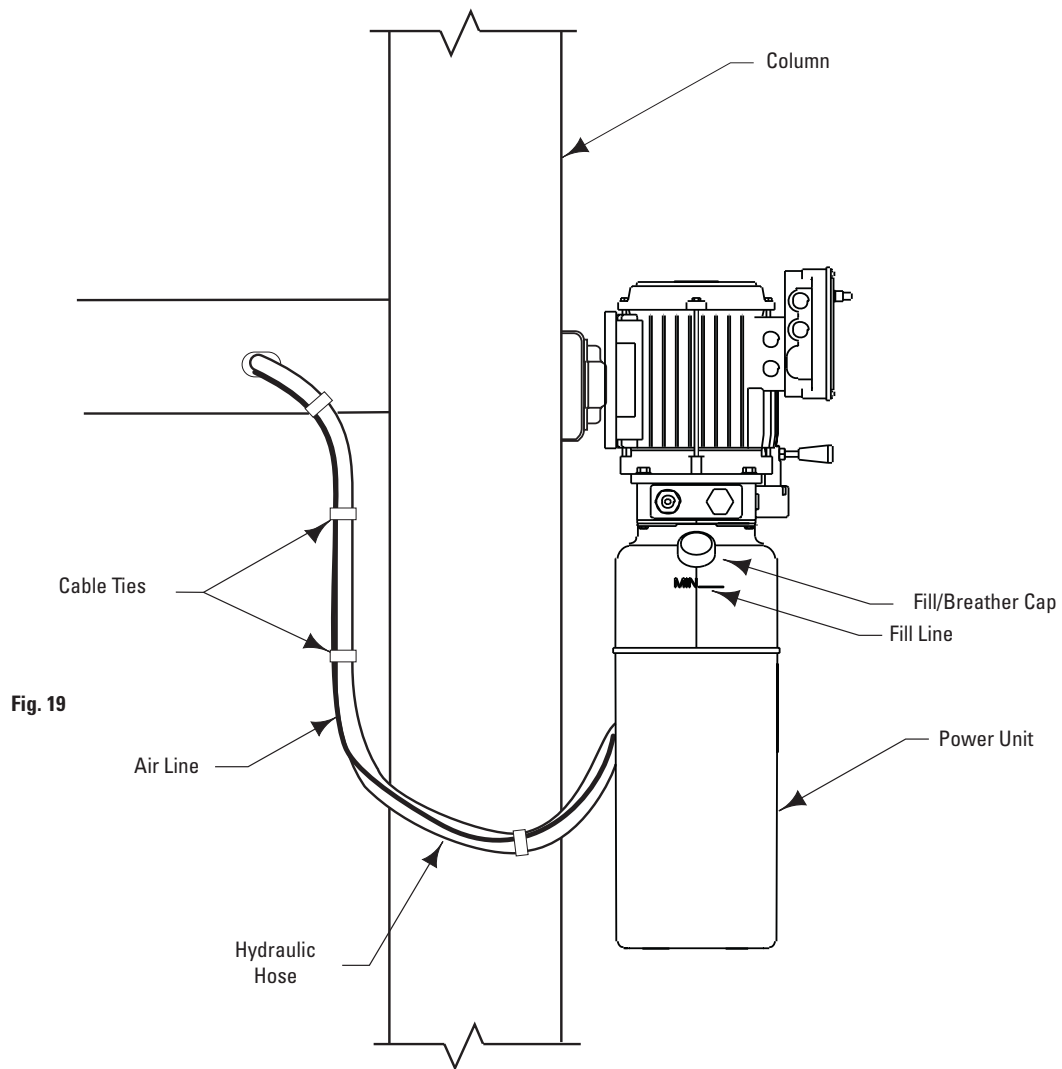

Fig. 19
B. Mount power unit, with motor up, to column bracket and install lock washers and nuts. Run hydraulic hose from runway through grommet in side of runway to power unit output port, Fig. 19. DO NOT use Teflon tape on hydraulic hose connections. Install and hand tighten elbow to pump until O-ring is seated and elbow should be oriented downward. Tighten locknut to 35-40 ft. lbs. Install enclosed Capacity label on power unit.
System capacity is thirteen (13) quarts. Use Dexron III ATF. Remove fill/breather, Fig. 19. Pour in hydraulic fluid until it reaches the **Fill Line**. Replace fill/breather. Start motor and raise lift to full rise. Lower onto latches.
**Note:** If fill/breather, Fig. 19, is lost or broken, order replacement.
To pressure test, run lift to full rise and run motor for approximately 5 seconds. Stop and check all fittings and hose connections. Tighten or reseal if required. Lower lift. If fill/breather, Fig. 19, is lost or broken, order replacement.